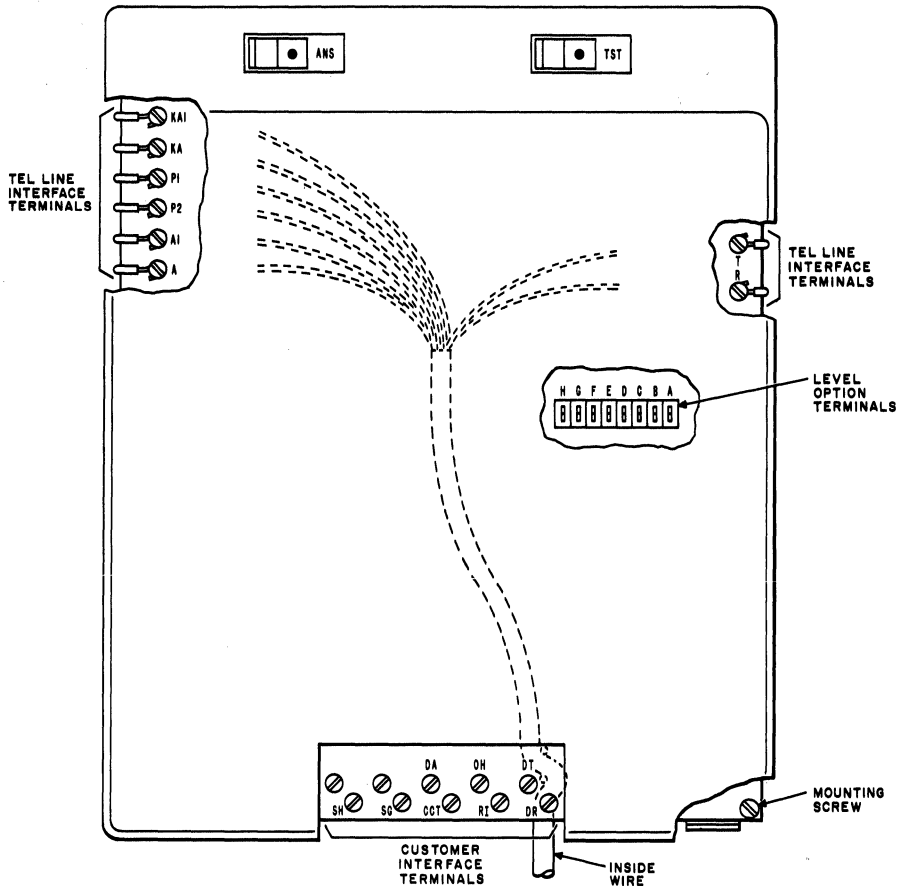

Fig. 2—Route of Station Wiring and Location of Terminals
2.02 Circuitry for the coupler is mounted on a single printed CP. Eight screw terminals at the lower end of the CP provide the interface for connection to customer equipment (Fig. 2). Two additional unmarked terminals are open-ended (not connected) on the board and provide extra tie points when required. Interface control leads use EIA RS-232-B voltage levels. See Table A for lead designations. The cord required for connecting the customer modem to the interface must be supplied by the customer.
2.09 Coupler Transmission Path: The coupler transmission path primarily consists of a coupling transformer, an ALC circuit, and a polarity guard (Fig. 2). The transformer terminates the telephone loop and provides a 2-way protective function (ie, hazardous voltages, surge protection, and longitudinal isolation). The ALC circuit prevents the customer signal level from exceeding the prescribed maximum limit. The polarity guard maintains the polarity of the line current and voltage required by the ALC circuit.